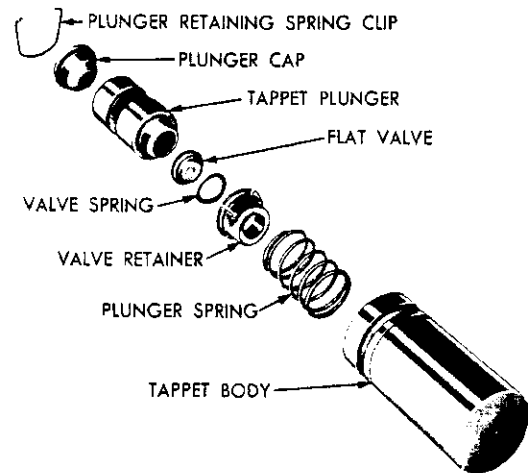

Fig. 22—Hydraulic Tappet Assembly (Exploded View)
### d. Disassembly (Figure 22)
- (1) Clean all the tappet parts in a solvent that will remove all varnish and carbon.
- (2) Replace the tappets that are unfit for further service with new assemblies.
- (3) If plunger shows signs of scoring or wear and valve is pitted, or if the valve seat on end of plunger indicates any condition that would prevent valve from seating, install a new tappet assembly.
- (4) Assemble the tappets, as shown in Figure 22.